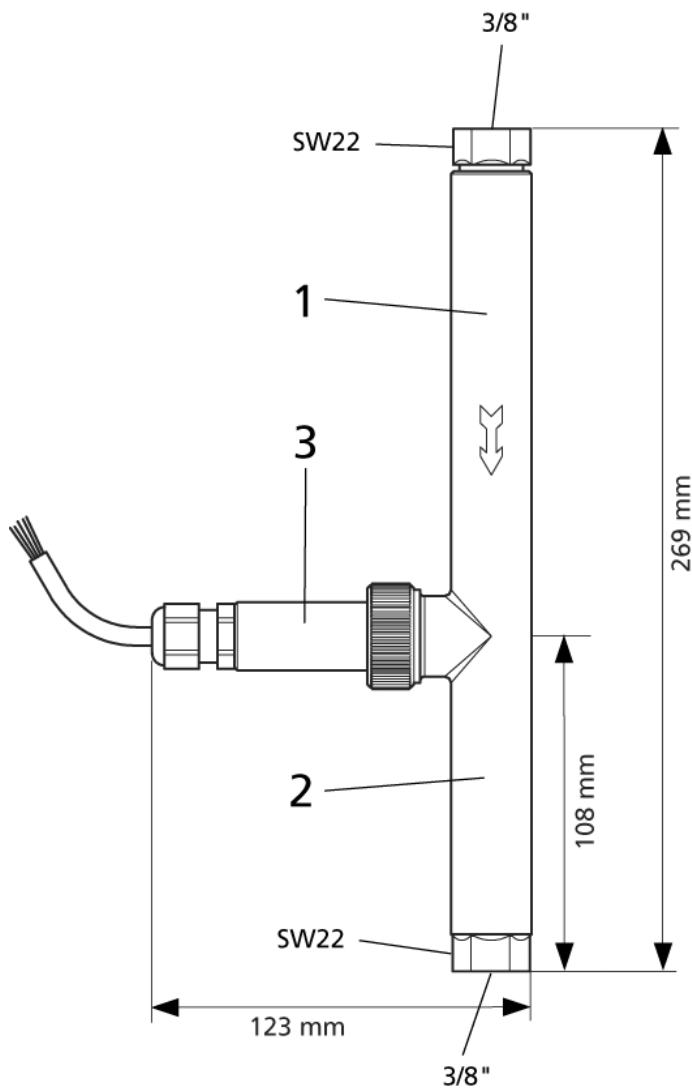

Figure 1: VAPORIX-Flow sensor
VAPORIX-Flow consists of a measuring tube with inlet section (1), outlet section (2) and side-fitted sensor support (3) (see Figure 1).